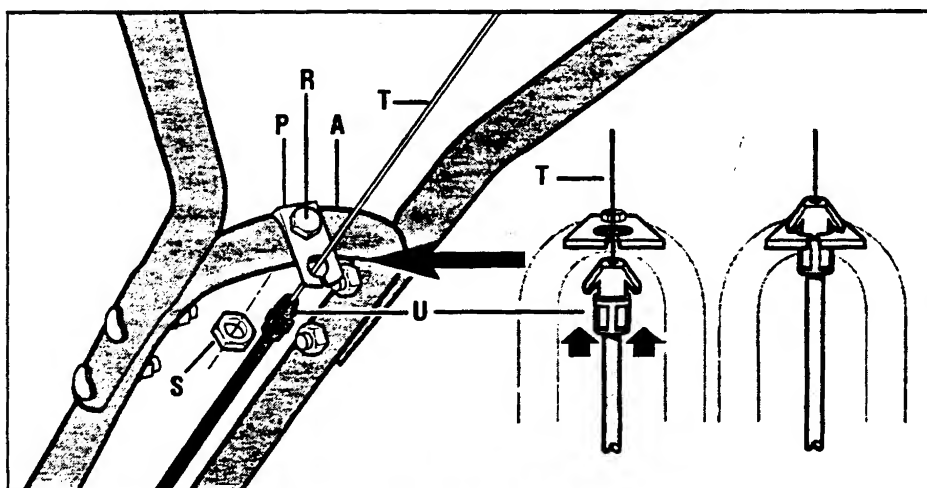

Fig. 2-4: Installing forward clutch cable bracket and cable.
1	Bracket, forward clutch cable (see P, Fig. 2-4)
1. Attach the forward clutch cable bracket (P, Fig. 2-4) to the handlebar support (A) with a 1/4"-20 x 1-1/4" hex hd. screw (R) and 1/4"-20 hex locknut (S). Tighten securely.
2. Carefully unwrap the forward clutch cable (cable without an attached knob) from its shipping position and slide the thin cable wire (T, Fig. 2-4) into the slot in the cable bracket. Push the cable connector (U, Fig. 2-4) up through the hole in the bracket until the groove in the connector snaps into place.